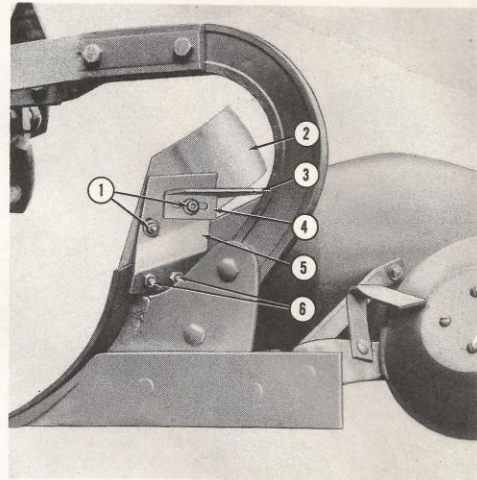

Figure 23
The Coverboard Assembly, Part No. 109243, is shown attached to the Economy Plow moldboard in Figure 23, and is installed as follows:
2. Attach the coverboard bracket (5), Figure 23 to the moldboard and shin, using two $\frac{7}{16}$ " x $1\frac{3}{4}$ " bolts (6) provided.
3. Assemble the coverboard (2), Figure 23 to the coverboard bracket (5), using two $\frac{3}{8}$ " x $1\frac{1}{4}$ " bolts (1), flatwashers and nuts provided. Make sure the coverboard wedge (4) is attached to the rear bolts, and the point adjusted to contact the plow beam as shown at (3). The wedge (4) serves as an important brace when deep plowing is practiced.